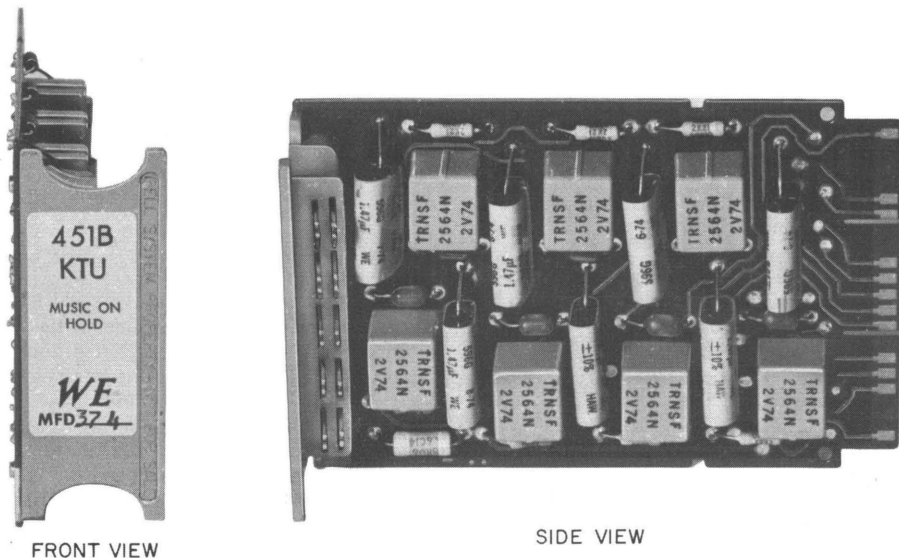

Fig. 1—451B KTU
**1.01** This section provides identification, installation, operation, maintenance, and connection information for the 451B key telephone unit (KTU) (Fig. 1) and Protective Connecting Arrangement (PCA) FTM. The 34A voice coupler is used to implement PCA FTM. This PCA provides a connection between a customer-provided (CP) music or information source and the music-on-hold circuit (451B KTU) in a telephone company 1A2 Key Telephone System (KTS).